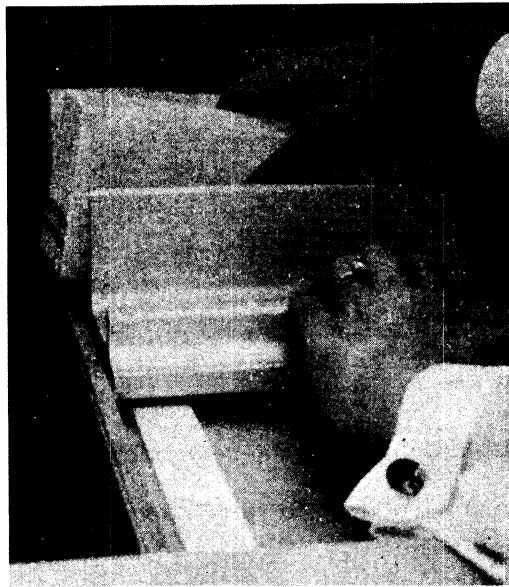

Figure 14. Adding Cards During Feed Operations
3. Place the added cards into this space with the right hand. Do not exert pressure against the cards already in the input hopper, as this may cause a misfeed. (See Figure 14.)